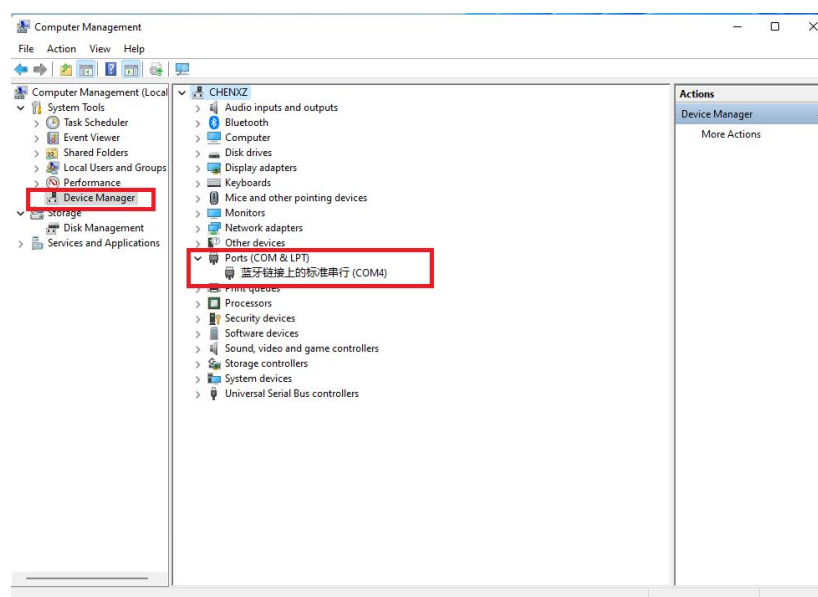

Fig.6
1.6 After the Bluetooth virtual port is added, open device manager of computer, port options can be confirmed, and port settings are performed fig. 6